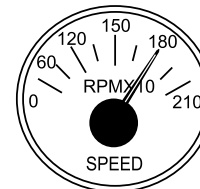

Figure 37. Engine Tachometer Gauge
14. The **tachometer gauge** (Figure 37) will indicate the speed of the engine when the generator is operating. Under normal operating conditions, this speed is approximately 1800 RPM's.